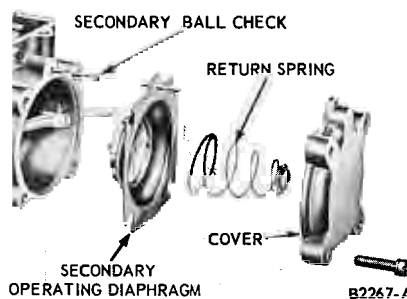

FIG. 23—Secondary Diaphragm Assembly
7. Remove the secondary diaphragm operating rod retainer and remove the rod. Remove the diaphragm cover, return spring, and diaphragm (Fig. 23). Invert the main body and let the secondary ball check fall into the hand.
10. Drop the secondary discharge ball check into the passage in the main body (Fig. 23).